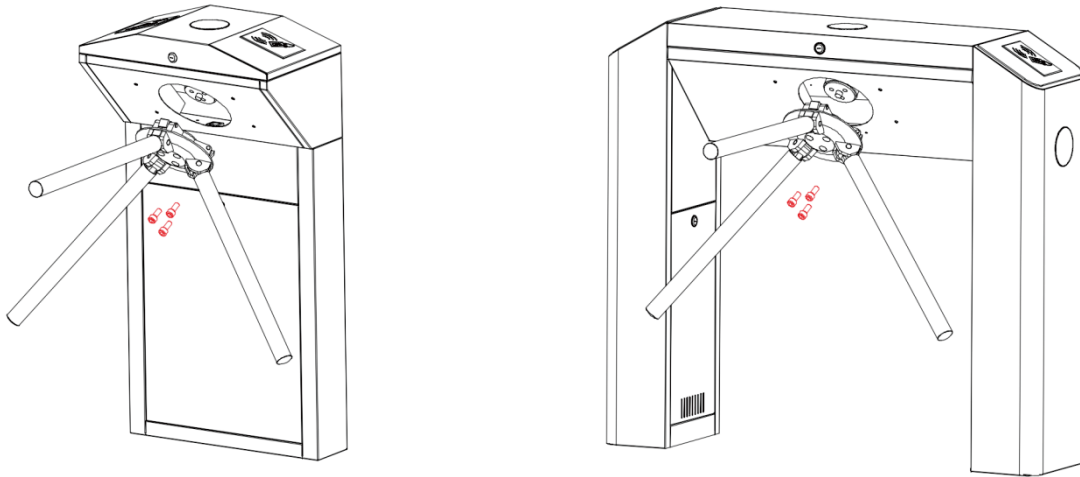

Figure 2-1
1. Put arm kit into the hole of cabinet, make sure the screw holes match with mechanism core, then tighten 3 hex screws, as shown in Figure 2-1.